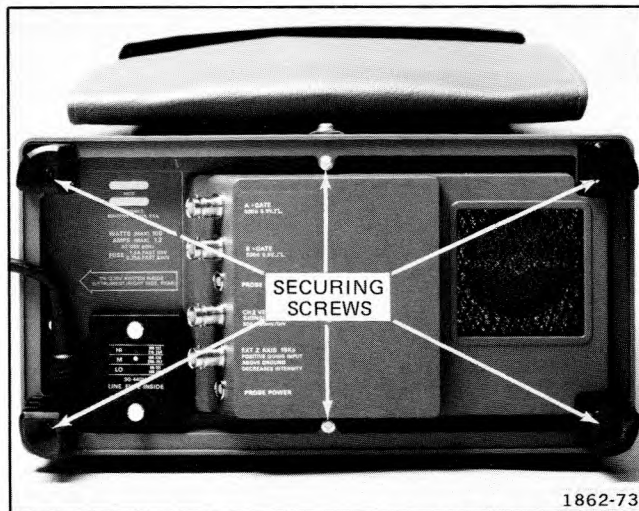

Fig. 5-1. Typical rear cabinet frame removal.
4. Completely loosen the six screws indicated in Fig. 5-1 and remove the rear cabinet frame (with feet and screws) from the instrument as an intact assembly.